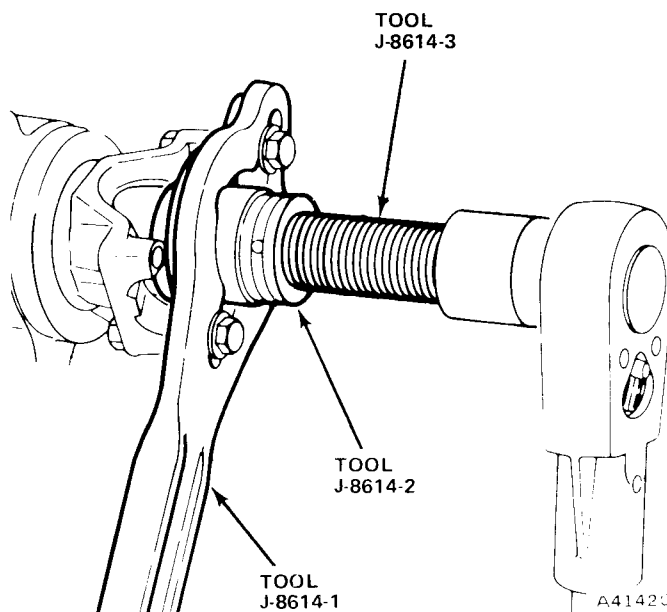
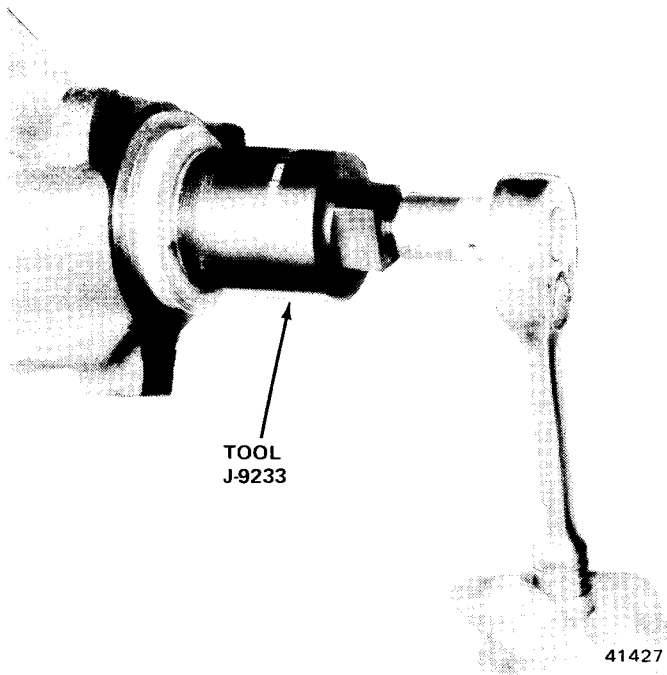
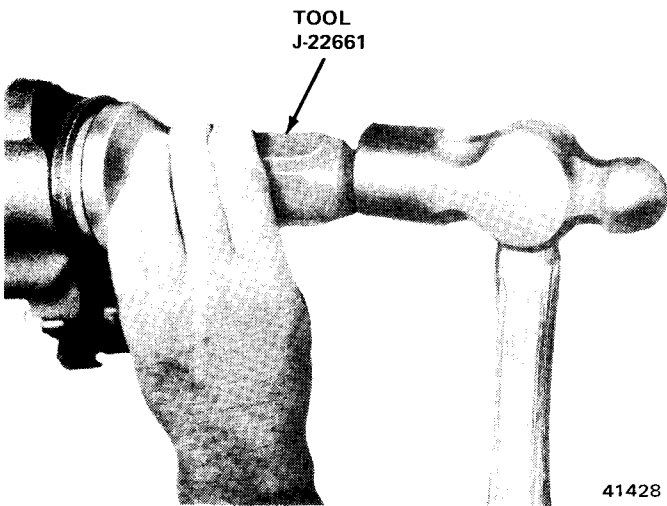

Fig. 10-26 Removing Rear Yoke
Fig. 10-27 Removing Pinion Oil Seal
Fig. 10-28 Installing Pinion Seal
- (1) Remove axle flange nuts, lockwashers, and split washers retaining axle shaft flange (fig. 10-26).
- (2) Remove axle shaft from housing.
- (1) Raise and support vehicle. Remove rear wheels and brake drums.
- (2) Disconnect propeller shaft from rear yoke. Index shaft to yoke for assembly reference.
- (3) Rotate drive pinion several revolutions. Use Companion Flange Nut Socket Tool J-22575 and an inch-pound torque wrench to check torque required to turn drive pinion.
- (4) Remove pinion nut. Use Companion Flange Holder and Remover Tool J-8614-1 or J8614-10 and Companion Flange Nut Socket Tool J-22575 (fig. 10-26).
- (5) Mark yoke and drive pinion shaft to assure correct alignment at time of assembly.
- (6) Remove rear yoke using tools J8614-10 or J-8614-1, -2, and -3 (fig. 10-26).
- (7) Inspect seal surface of yoke. If surface is damaged or grooved, replace yoke.
- (8) Remove pinion oil seal using Seal Remover J-9233 (fig. 10-27).
- (9) Before installing replacement seal, coat seal lip with rear axle lubricant.
- (10) Install seal using Pinion Oil Seal Installer J-22661 (fig. 10-28).